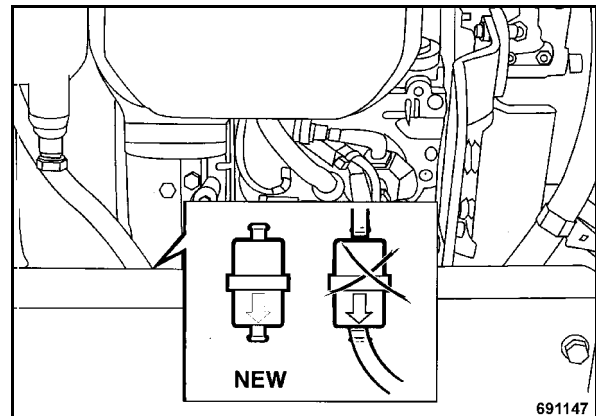

Fig. 64
- Pull the fuel filter (Fig. 64) out of the top and bottom hoses.